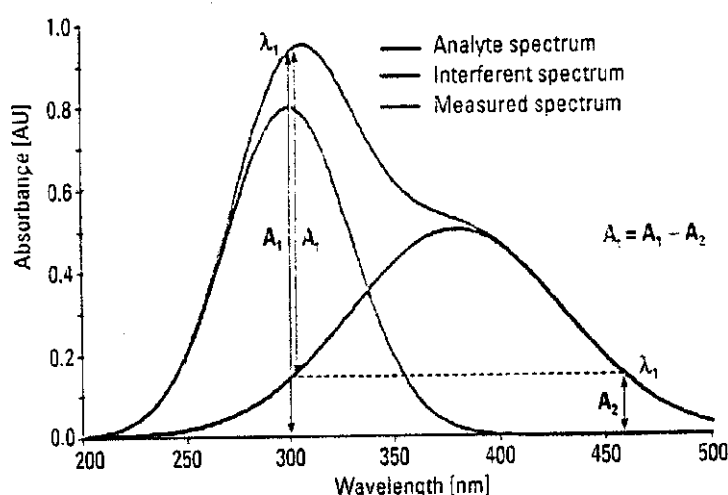

Fig A1 Isoabsorbance correction
5. Re-fit all the screws around the sides of the spectrophotometer, Fig A1
When a known interfering component with a known spectrum is present, the error introduced by this component at the analytical wavelength for the target analyte can be eliminated by selecting a reference wavelength at which the interfering compound exhibits the same absorbance as it does at the analytical wavelength. The absorbance at this reference wavelength is subtracted from the absorbance at the analytical wavelength, as shown in Figure A1. The residual absorbance is the true absorbance of the analyte.